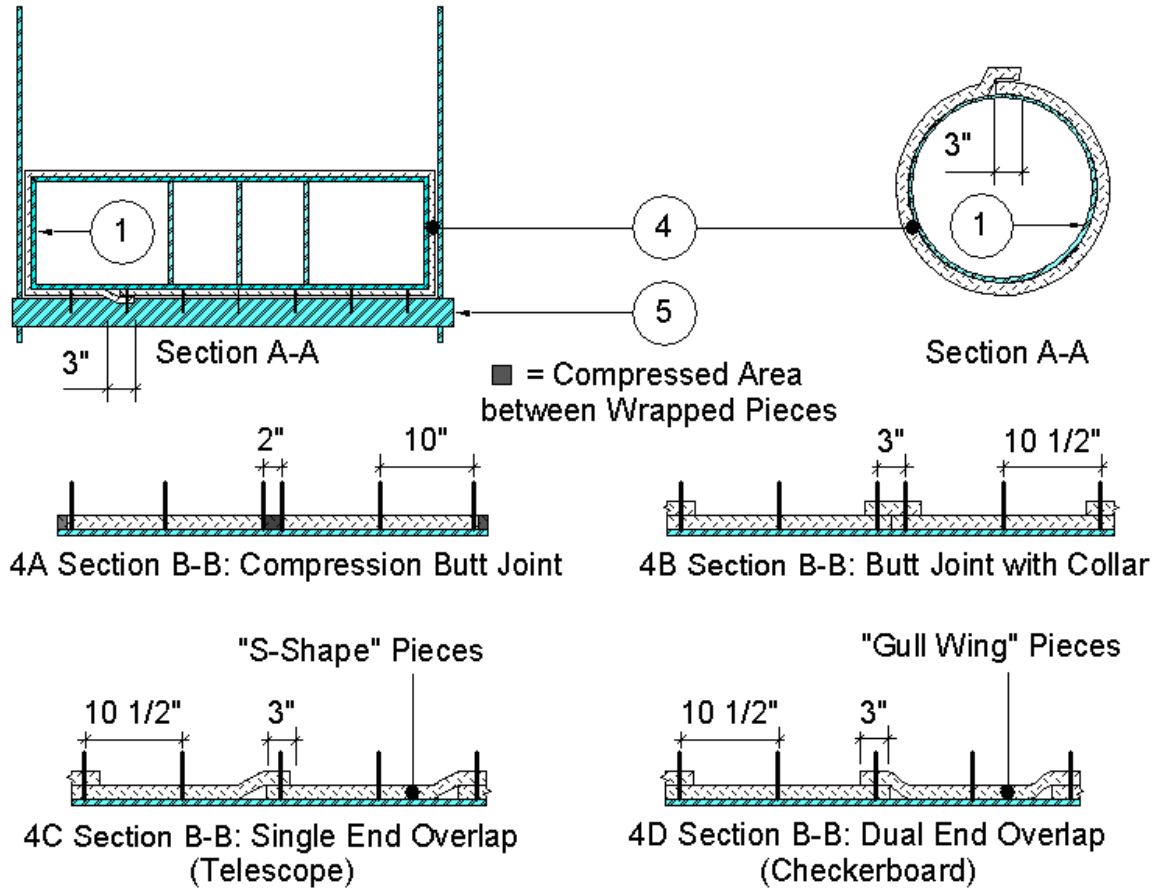

Figure 2
2. FASTENERS: Refer to Figure 2. Weld min. 12 GA, 4-1/2 in. long, copper-coated
- INSULATION: Refer to Figure 2. Apply one layer of nominal 1-1/2 in. thick, 6 pcf blanket, made of fibers, encapsulated with foil scrim over the entire surface of the ventilation duct (Item 1) and a collar on each side of the penetration firestop (Item 1D). Apply the insulation in accord with one of the four methods (A, B, C, or D)